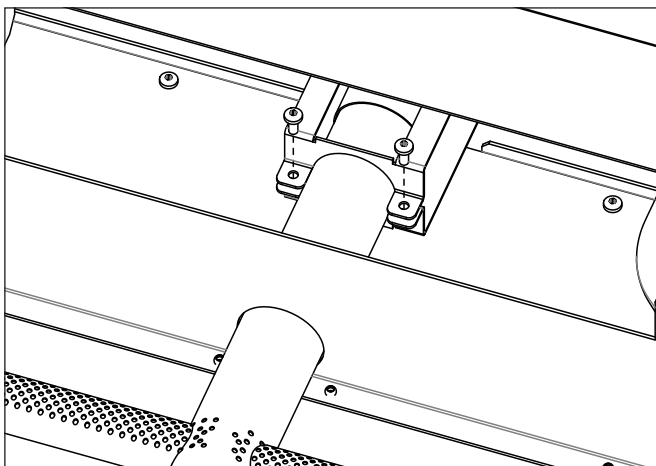
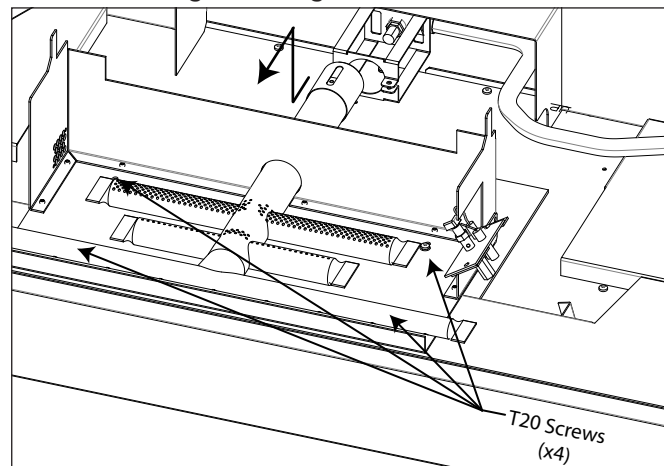

Figure 10: Orifice Mount Clamp
Figure 11: Log Burner Removal
7. Remove the two (2) T-20 screws securing the orifice mount clamp onto the burner (see Figure 10).
8. Remove the two (2) T-20 screws securing the pilot assembly to the burner.
9. Loosen the four (4) T-20 screws securing the burner to the firebox (see Figure 11). The burner has keyslot holes that allow the burner to then be removed without fully removing the screws.